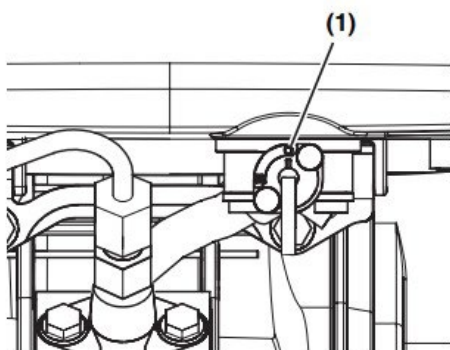

Figure 1
2. Make sure the fuel cocks is in the ON position (**Figure 1,(1)**).